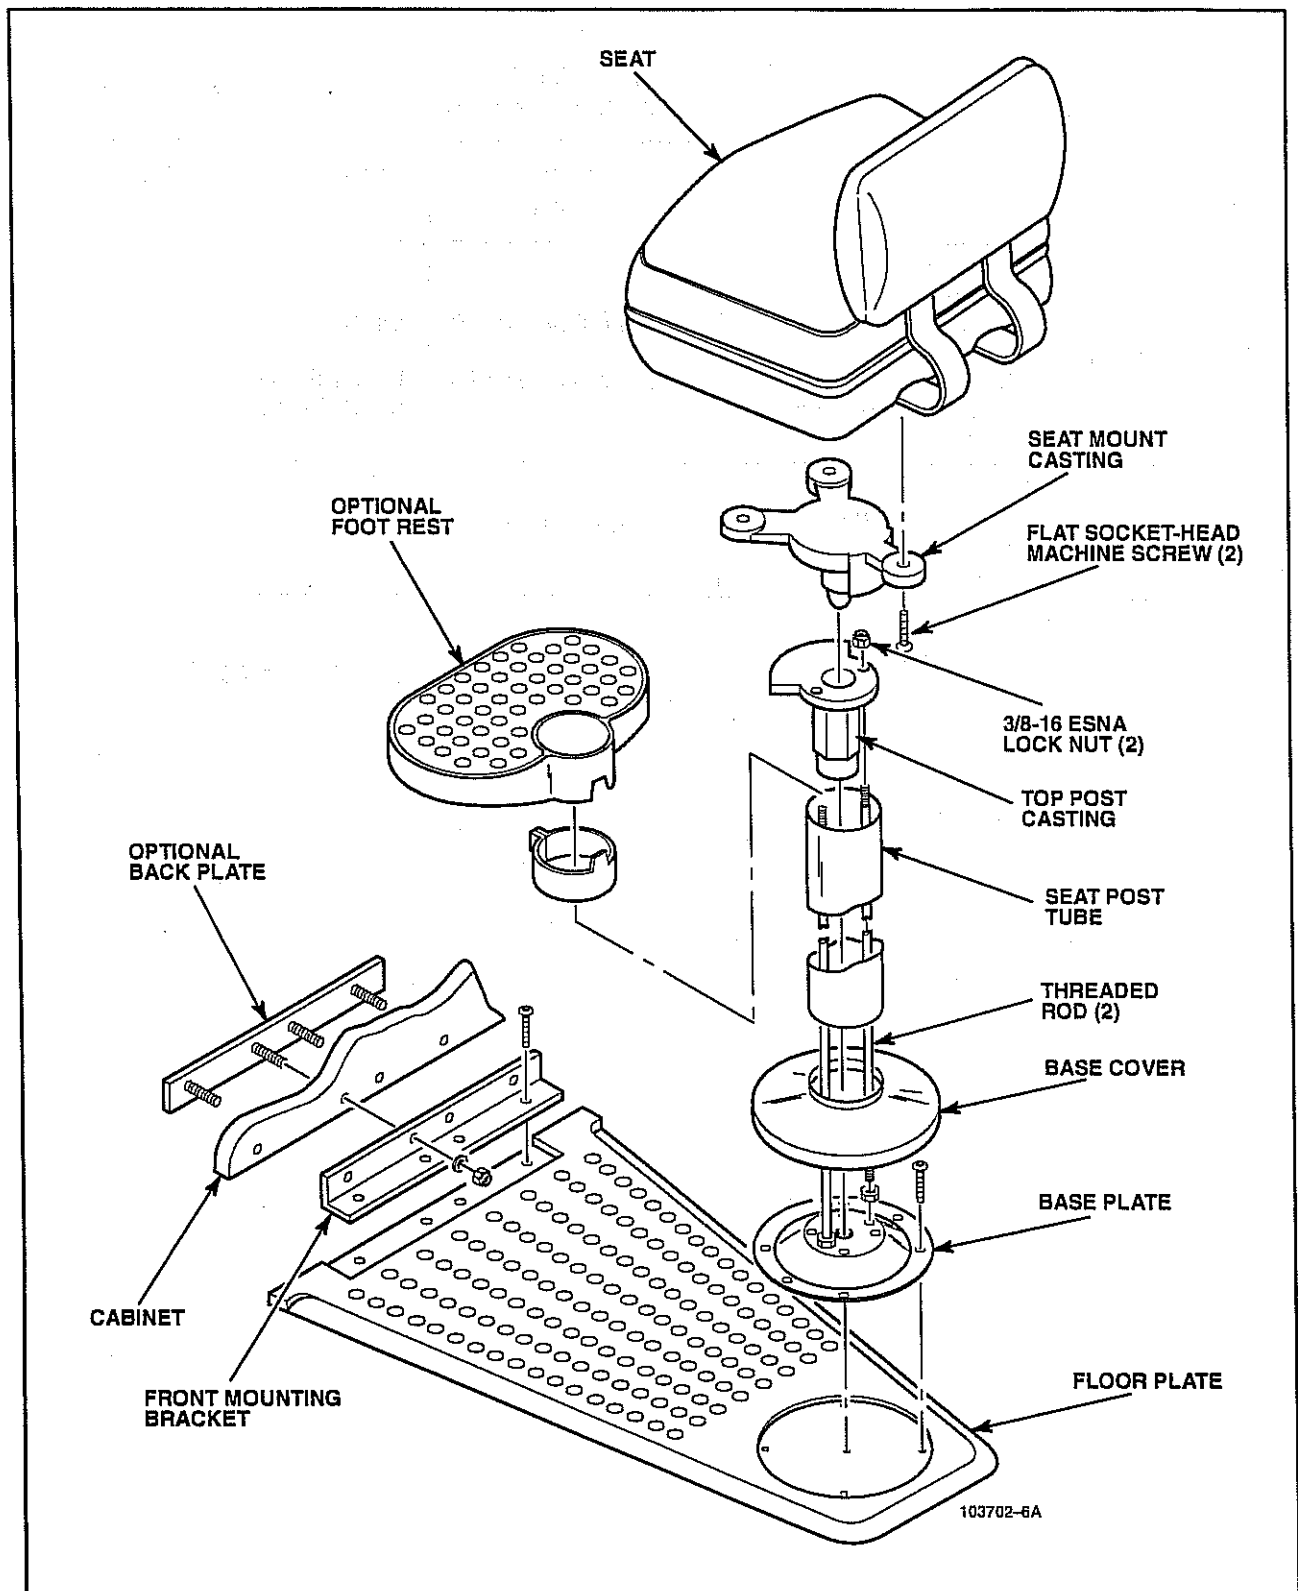

Figure 2-2. Seat Mounting.
2. Insert a 5/16" x 2-1/2" (8mm x 6.4 cm) carriage bolt, from inside the machine, through each of the three designated mounting holes (see Figure 2-2, Stand Mounting) and down into the stand.
To assemble and attach a seat to the front of the stand, locate the hardware kit shipped with the seat, then see Figure 2-2 and proceed as follows.